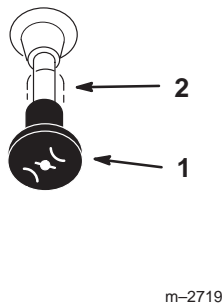

Figure 14
4. Move the choke control to the On position before starting a cold engine (Fig. 14).
7. After the engine starts, move the choke to Off (Fig. 14). If the engine stalls or hesitates, move the choke back to On for a few seconds. Then move the throttle lever to the desired setting. Repeat this as required.